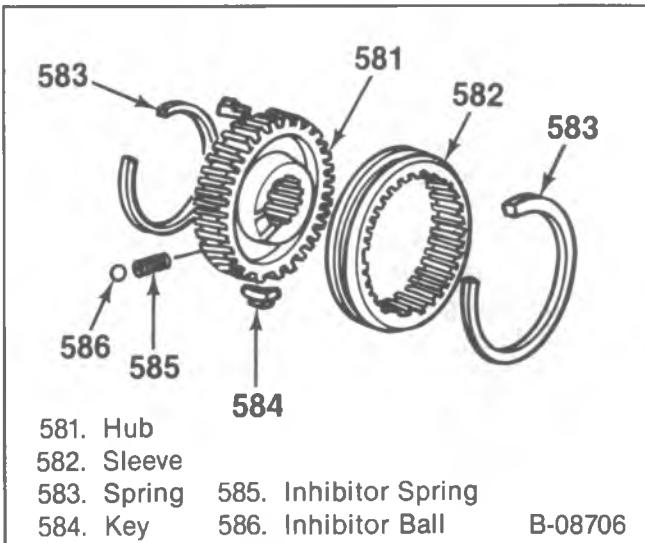

Figure 94—Synchronizer and Components
- 7. Synchronizers (568 and 573), (figure 94).
1. Synchronizers (568 and 573), (figure 94).